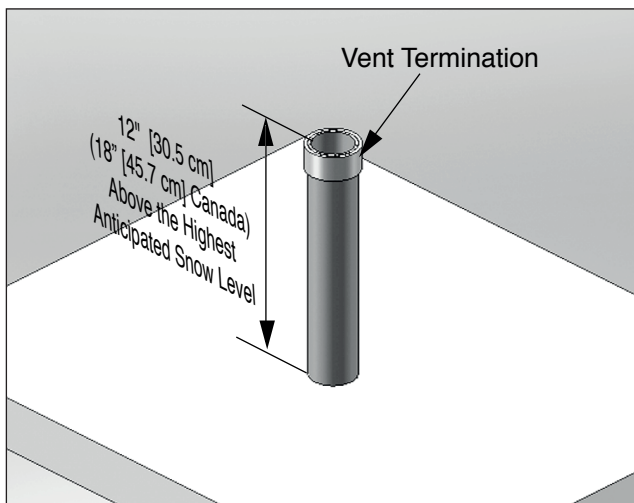

Fig. 15 - Category - IV - Vertical Termination of Vent Pipe
3. The vent piping must terminate vertically with a coupling to accept the bird screen and must be located 12" [30.5 cm] (18" [45.7 cm] in Canada) above the highest anticipated snow level as shown in *Fig. 15 on page 24 below*.
3. Locate the vent pipe penetration to provide clearances as described in *Fig. 15 on page 24*.
3. The vent piping must terminate vertically with a coupling as shown in *Fig. 15 on page 24*.
Do not extend the vent pipe above the roof beyond the dimensions shown in *Fig. 15 on page 24*. Extended exposure of the vent pipe could cause condensate to freeze and block the vent pipe, resulting in substantial property damage, serious injury, or death.